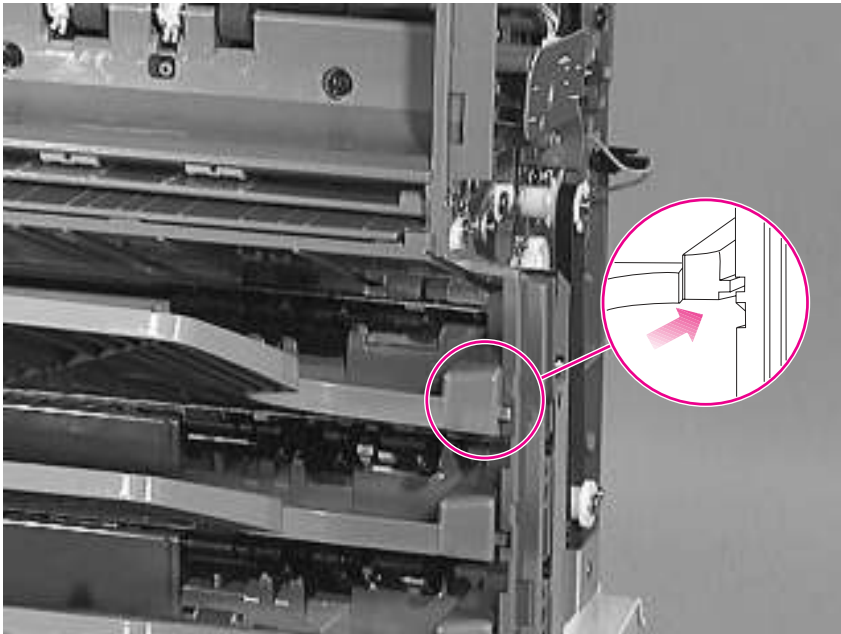

Figure 6-131 Face-down Bins (3 of 3)
- 2 Make sure that the tabs are in place as shown in figure 6-131 callout 1.